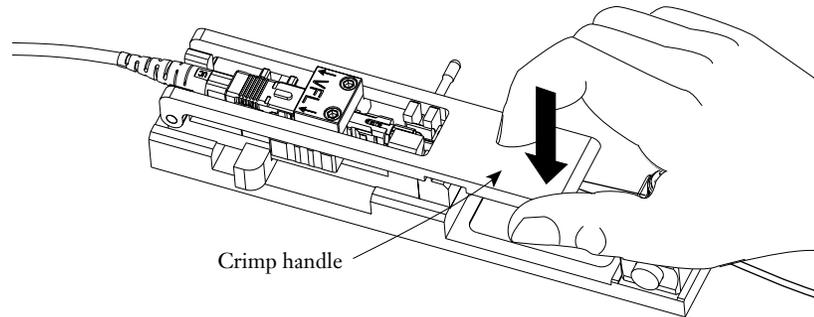

Figure 5-46
**5.8-5** Carefully flip the crimp handle 180° until it contacts the crimp tube. Push down firmly to crimp (Figure 5-46). The tool cannot over-crimp the connector.